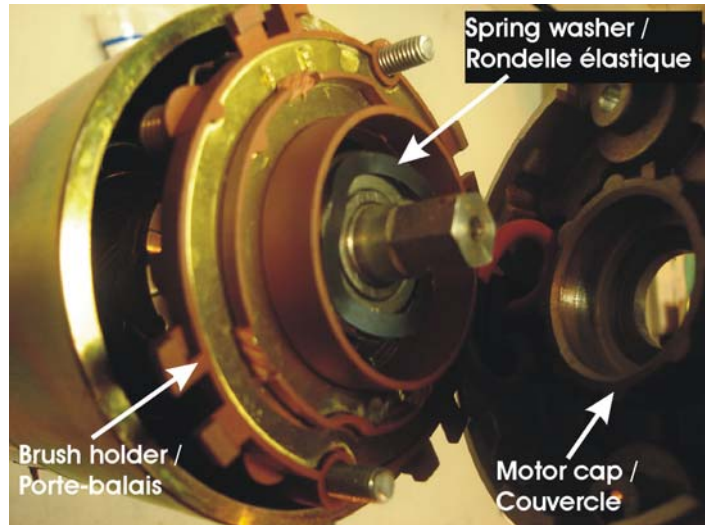

FIGURE 4
7. Remove the brush holder and the spring washer (figure 4).